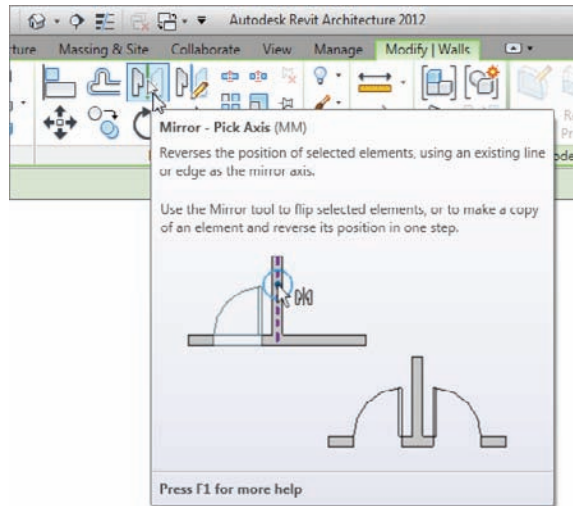

FIGURE 2.29 The Mirror - Pick Axis command is activated when you have objects selected.
2. On the Modify | Walls tab, click the Mirror > Pick Axis button, as shown in Figure 2.29.